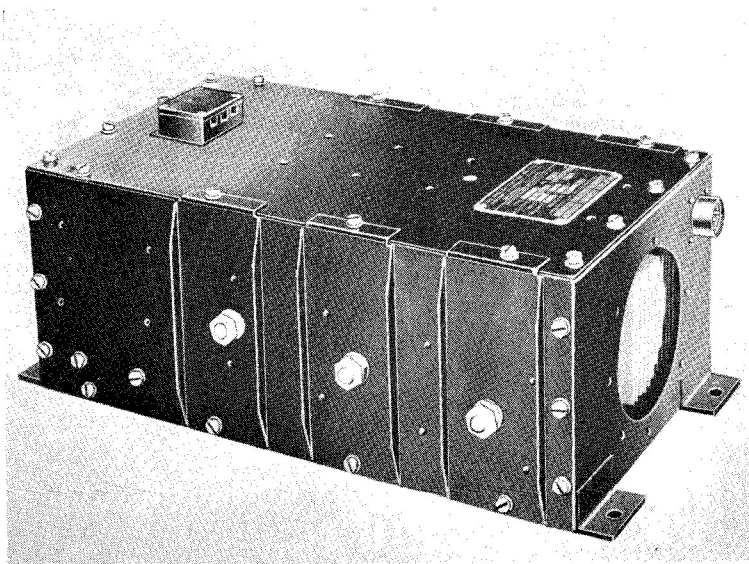

Fig. 1. Transformer-rectifier unit, Type AE5704
3. The components of the unit consists of a transformer, three rectifiers, a terminal block and a breeze plug. The transformer and rectifiers are housed in a rectangular aluminium case (*fig. 1*), the top, bottom and sides being stiffened internally with channel sections, additional channel sections are located on the outside, at the rectifier mounting points and the sides are detachable to allow installation of the rectifiers. Access to the unit is gained by removal of the top panel, which is attached by 2 B.A. ch. hd. screws, secured by anchor nuts. The input terminal block is attached to the outside of this panel by two 6 B.A. ch. hd. screws, locked with shakeproof washers.